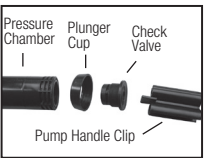

Figure 3
4) Check Valve: Remove check valve cartridge assembly from bottom of pressure chamber utilizing pump handle clip (clip has flat blade incorporated into end). Place flat blade into slot in bottom of cartridge and unscrew. Once cartridge has been removed it can either be replaced as an assembly or rebuilt. To rebuild disassemble two halves of cartridge and replace seal and/or ball (Figure 3 and 4). The seal mounts inside the larger of the two halves of the cartridge. The seal counterbore side mounts into the grooves in the cartridge half. Pump performance may be affected if this is not assembled correctly.